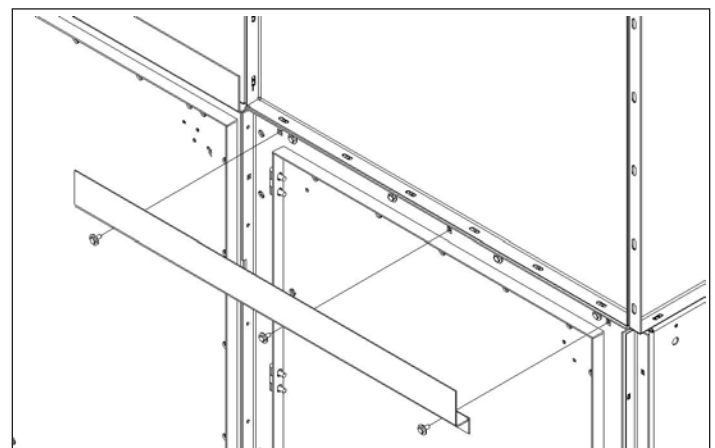

Figure 11. Installation of the Z Gas Deflector
- B. Mount the Z gas deflector (69C4232H01) to the top of the rear module and replace the self-tapping screws removed above (see **Figure 11**).